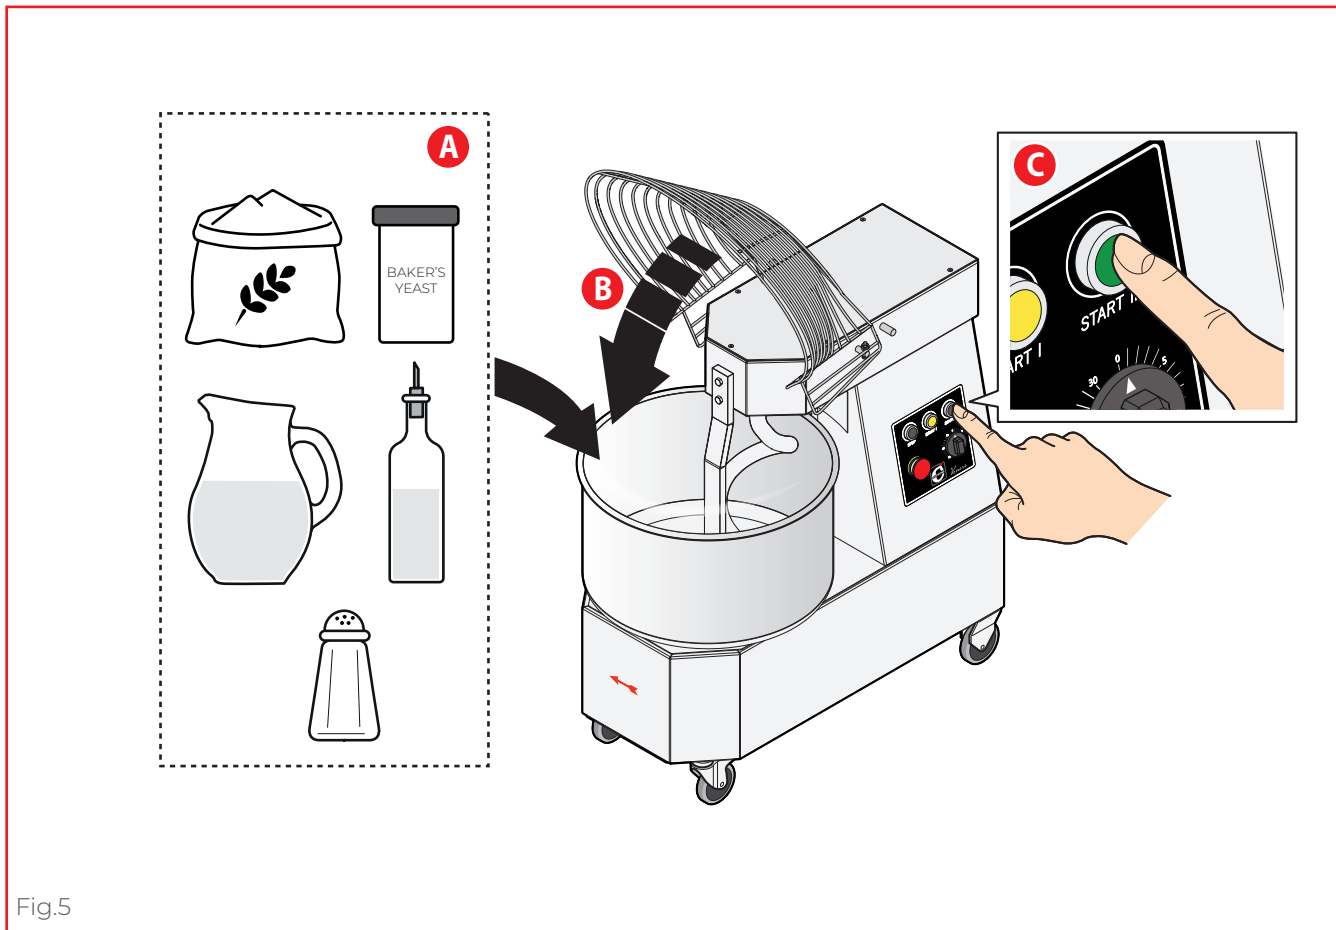

Fig.5
► **Fig.5** The machine mixes the dough thanks to the rotating movement of the bowl and the steel spiral tool. When using for the first time, clean by carefully following the instructions in the dedicated chapter.